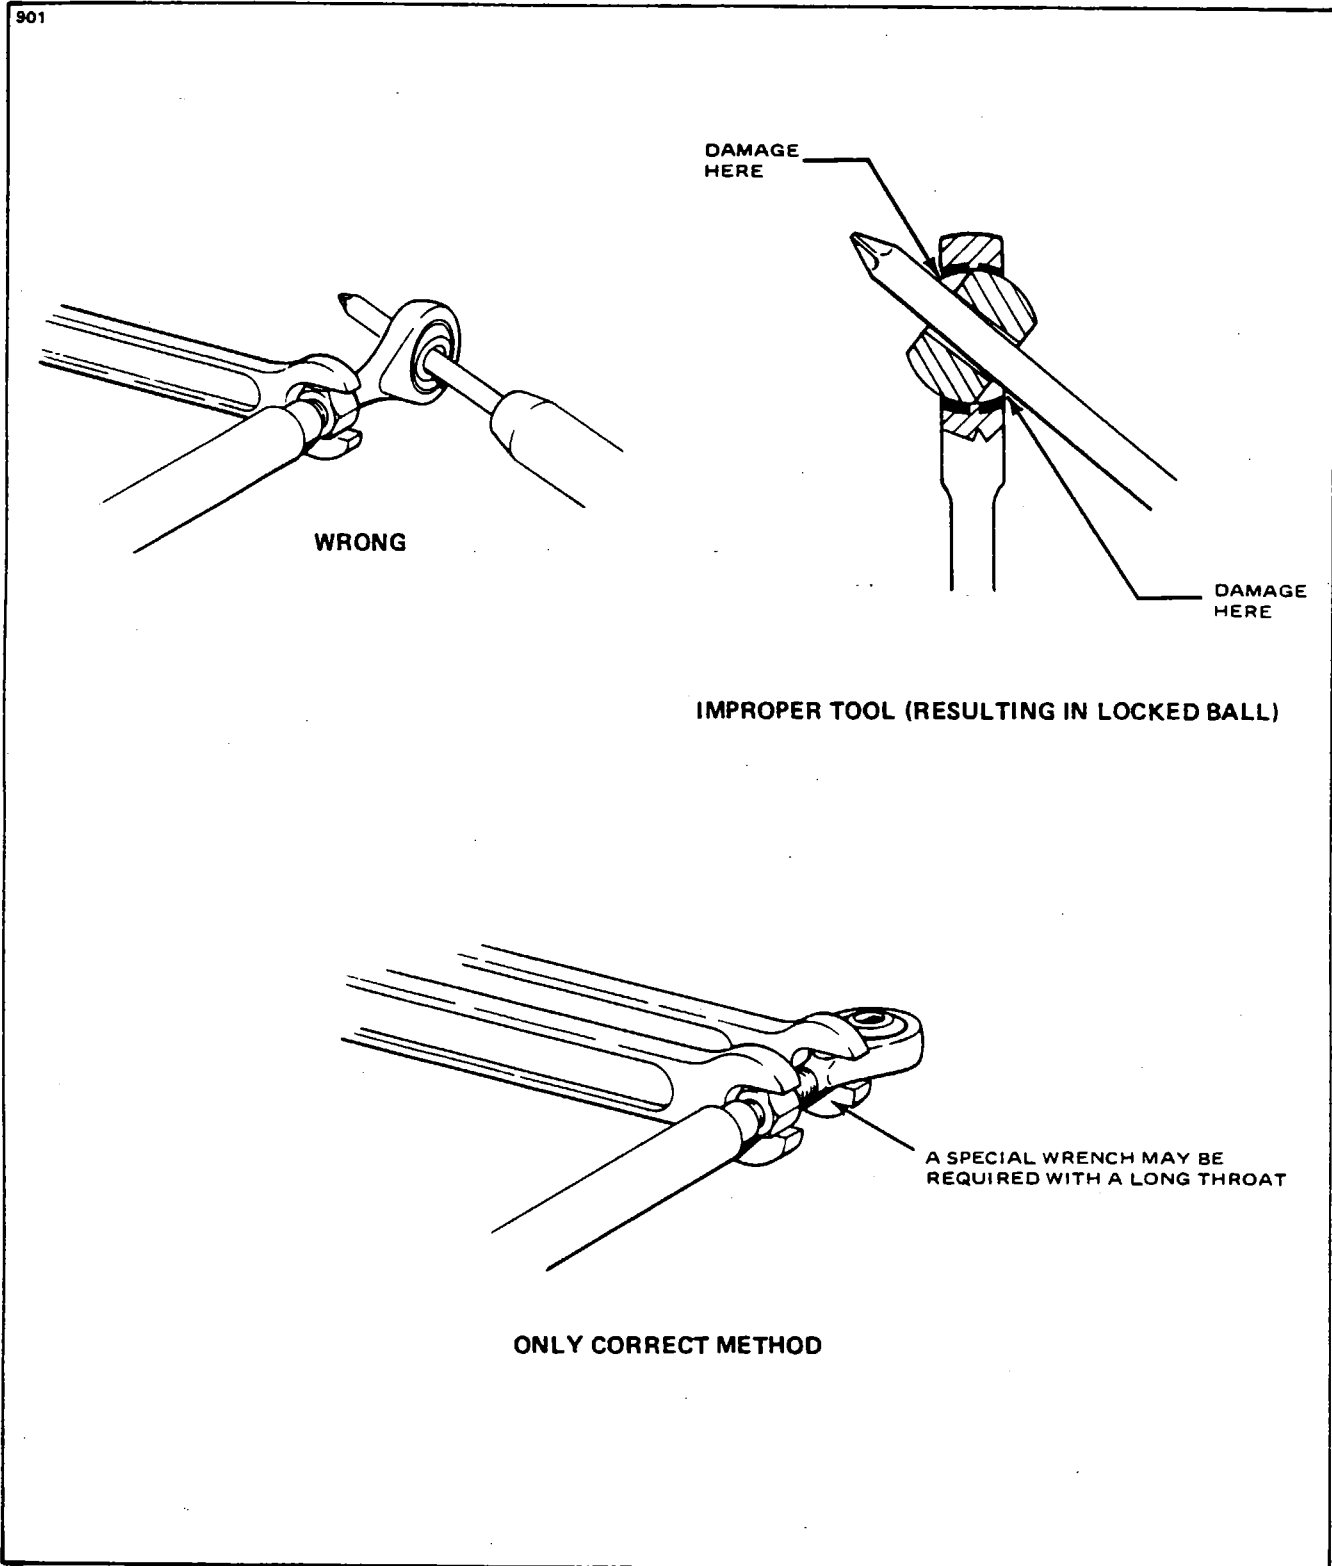

Figure 5-1a. Correct Method of Installing Rod End Bearings
- f. When installing rod end jam nuts, refer to Figure 5-1a for proper installation method.